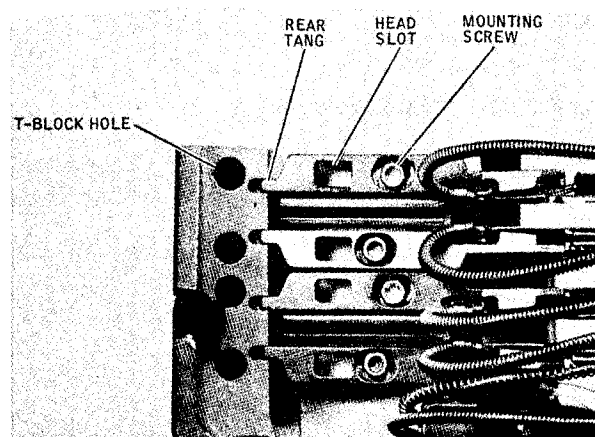

Figure 4-4. Head Positioning and Mounting Components
2. Insert the head assembly with the camming tool installed in the correct position by setting the arm on the proper cam and then sliding the head to the rear so that both front and rear tangs on the head mount mate with the proper T-block slots on the carriage assembly (Figure 4-4).